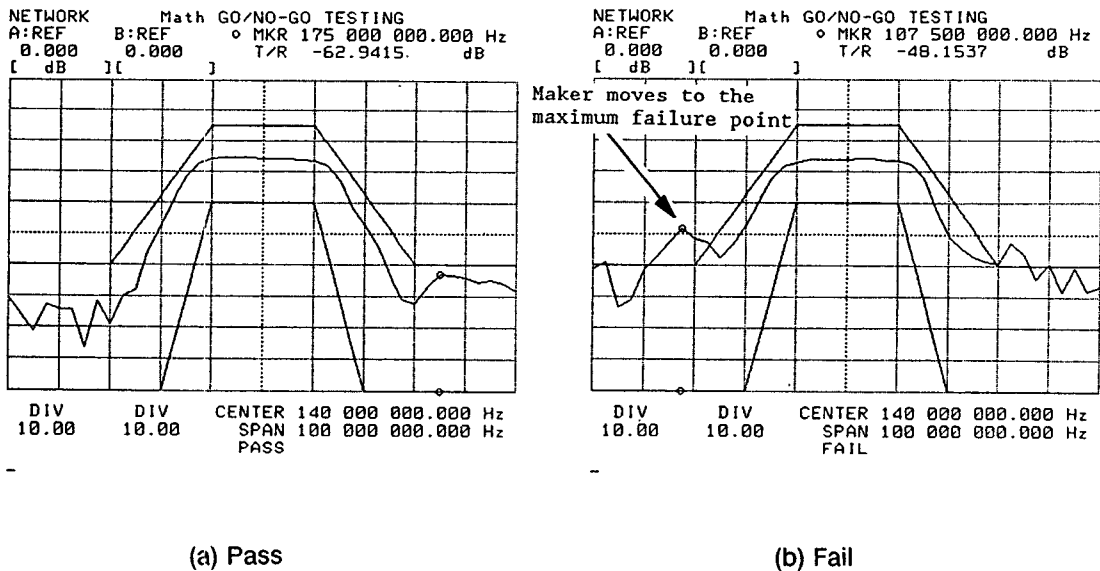

Figure 7. Results of GO/NO-GO testing
- 3) Press the 'PROGRAM' key and the 'CONT' softkey, the HP 4195A will start the GO/NO-GO test. Figure 7 shows some sample results of a GO/NO-GO test of a bandpass filter.